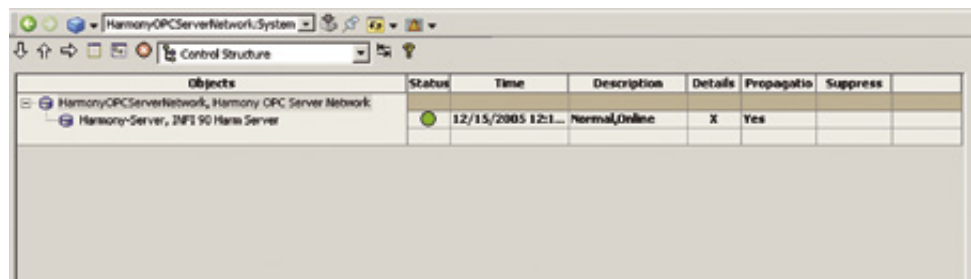

Figure 16. System Status Viewer
- **System Status.** The System Status Viewer (Figure 16) is used to monitor the status of the Harmony system applications. The description field can display one or all of the following messages: